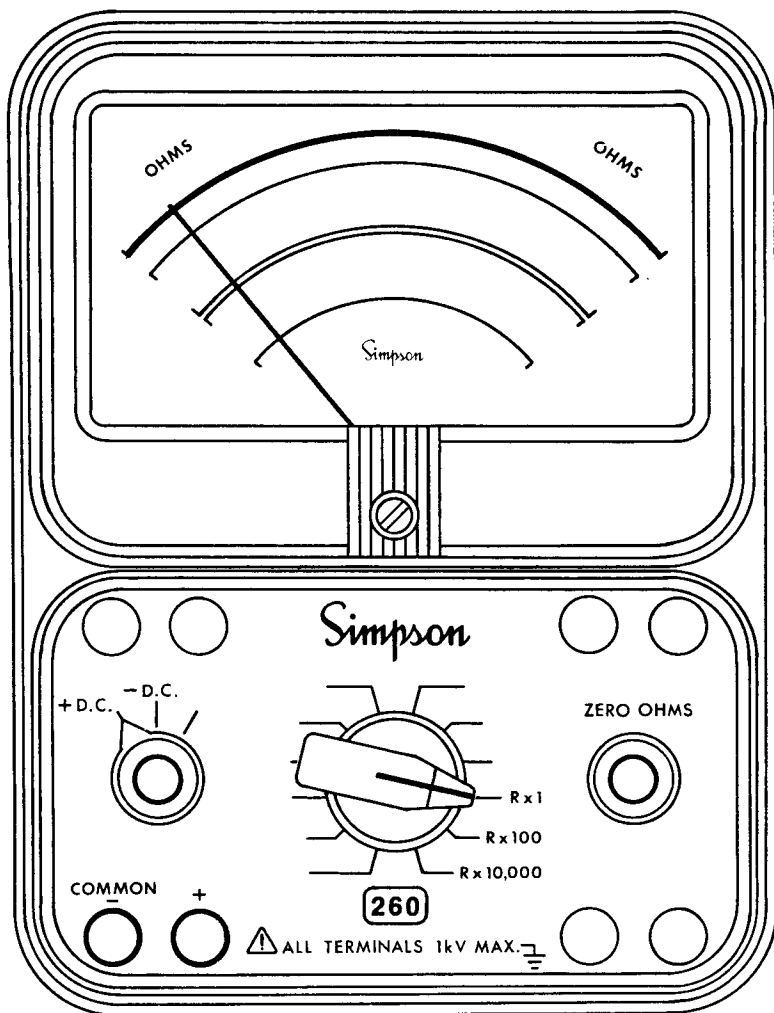

FIGURE 4-8. JACKS AND SWITCH POSITIONS FOR MEASURING RESISTANCE
- b. Set the range switch to one of the resistance range positions as follows (Figure 4-8):